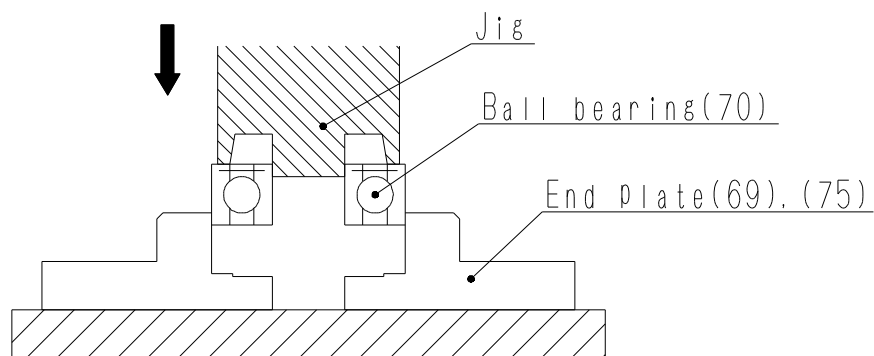

Fig.14
- (1) Press Ball bearing(70) into the bearing recess on each End plate(69),(75) using a jig and hand press (See Fig. 14).